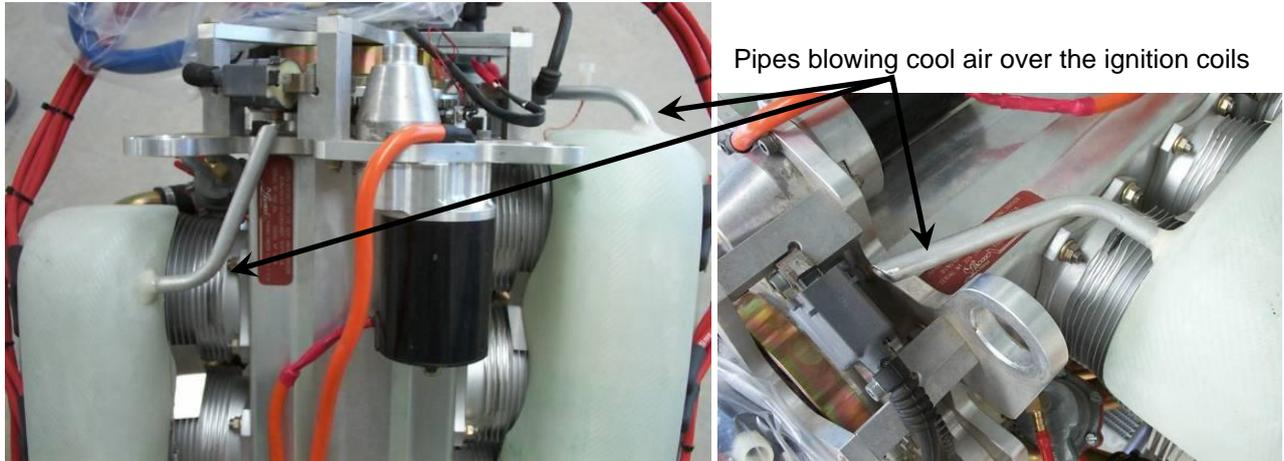

Figure 54. Coil Cooling Detail
- Tubes of approximately 12mm diameter are required to provide cooling air to the ignition coils - Figure 54.